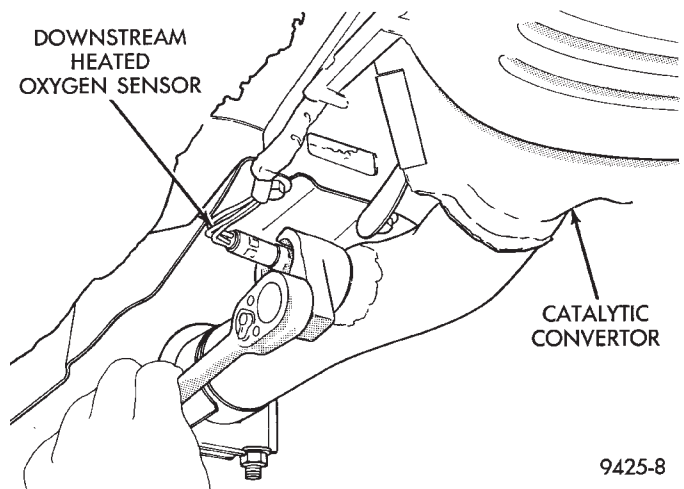

Fig. 92 Oxygen Sensor 1/2 Downstream
- (1) Raise vehicle.
- (2) Disconnect electrical connector from sensor.
- (3) Disconnect sensor electrical harness from clips along body.
- (4) Remove sensor using an oxygen sensor crow foot wrench such as Snap-On tool YA8875 or equivalent (Fig. 92).